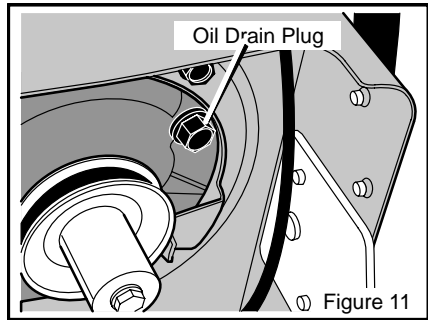

Figure 11
2. Remove the **oil drain plug** as shown in Figure 11.